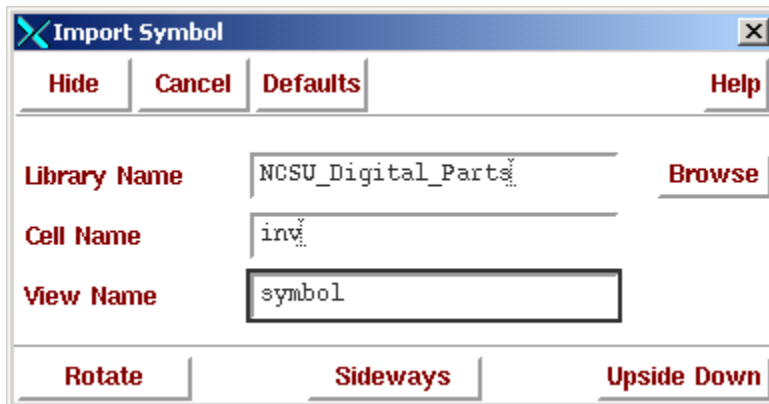

Figure 28: Importing a symbol.
1. Goto add... import symbol. A pop-up like Figure 28 should appear. Click on browse and select the inverter in the digital library of the NCSU kit. The pop-up should look exactly like Figure 28.